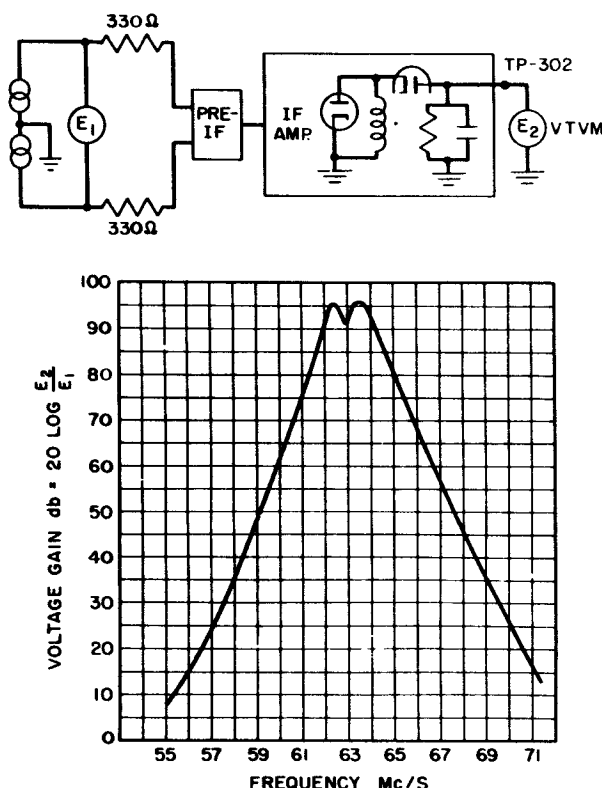

Figure 6-14. Receiver Response Characteristics
2. CHARACTERISTICS OF I-F AMPLIFIER INCLUDING FERRIS DISCRIMINATOR.—The response of the i-f amplifier at test point TP2 should approximate that of the response shown in figure 6-14. The crossover points of the negative lobe (high and low frequency points that pass through zero voltage), measured with the frequency meter,